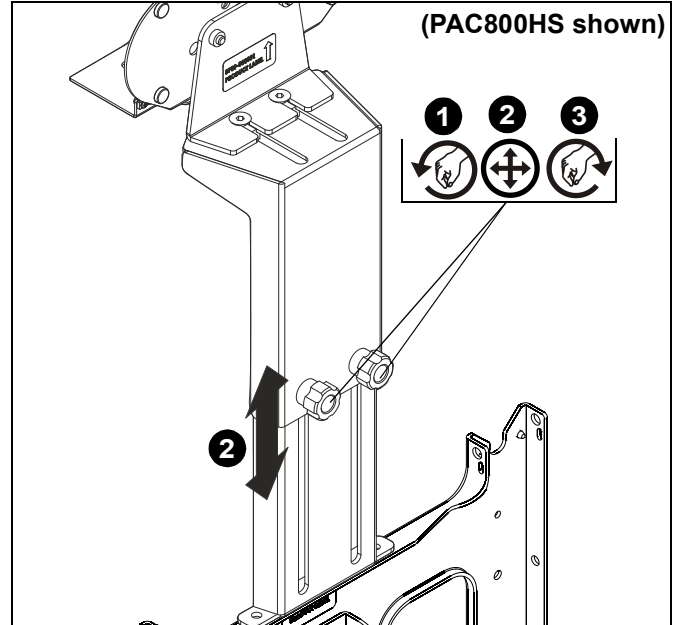

Figure 6
1. Loosen two adjustment knobs on the back of the main bracket (A). (See Figure 6)
2. Raise or lower bracket to desired height. (See Figure 6)
3. Tighten two adjustment knobs on the back of the bracket until mount is secure. (See Figure 6)